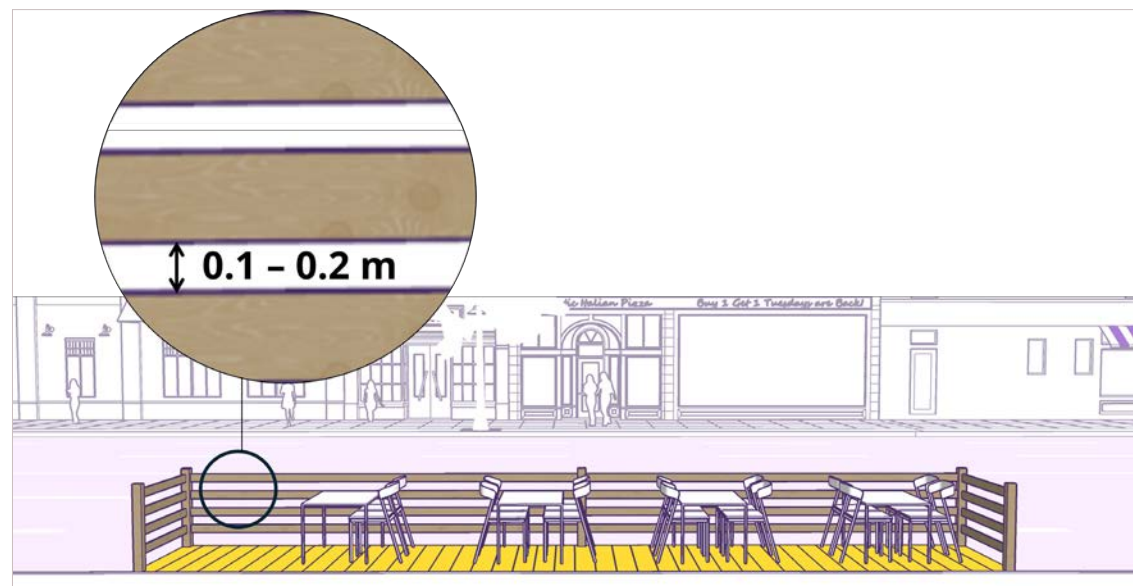

Figure 27: Opening in the railing
- f. If using an open railing, openings and gaps must be between **0.1 m** and **0.2 m** (see *Figure 27*).